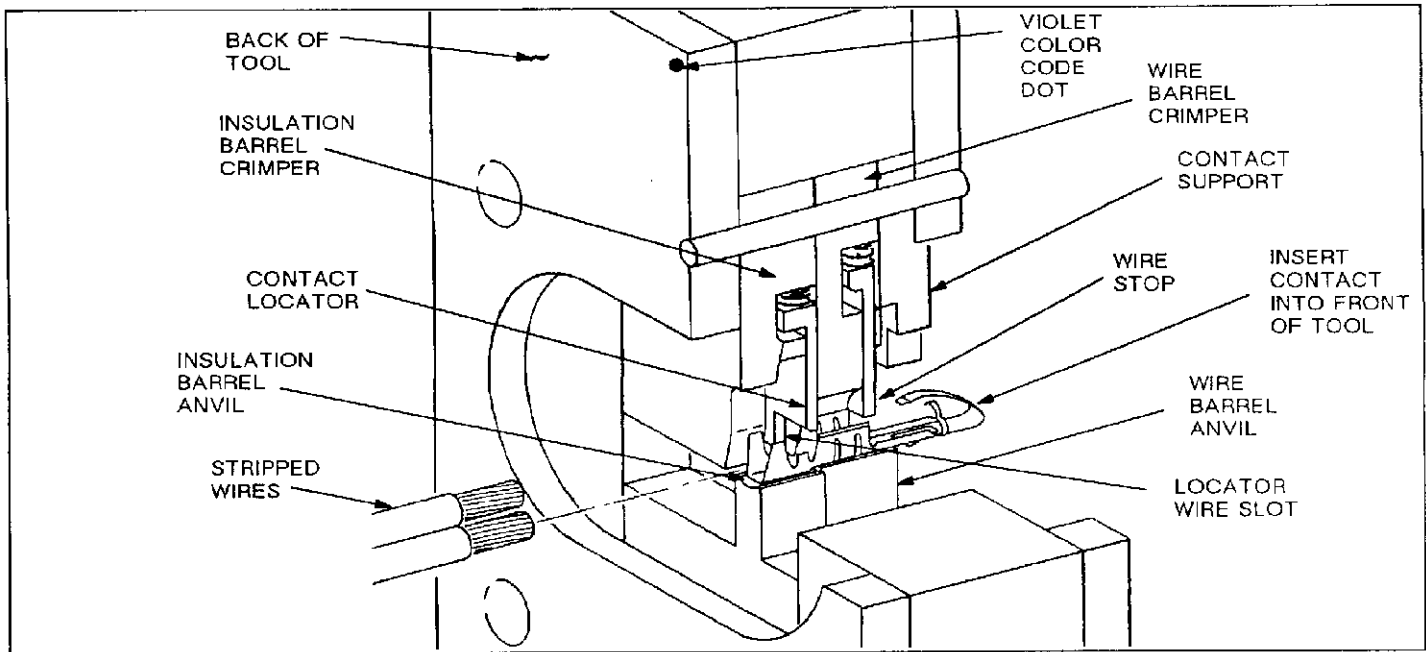

Fig. I-3
1. Hold the tool so the **BACK** of it is facing you. See Figure I-3.
3. Looking straight into the crimping dies from the **BACK** of the tool, insert a contact (insulation barrel first) into the **FRONT** of the tool. See Figure I-3.
4. Position the contact in the crimpers so that the locator enters the locator slot. See Figure I-3.
6. Insert the stripped wire through the locator wire slot and into the wire barrel of the contact until it butts against the wire stop. See Figure I-3.